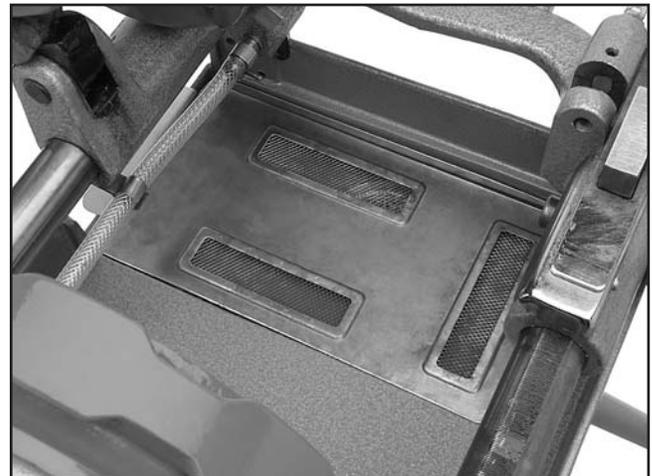

Figure 20. Clean drip tray and screens reinstalled.
7. Install the screen in the plastic liner and replace the plastic liner and drip tray above the fluid reservoir, as shown in **Figure 20**.